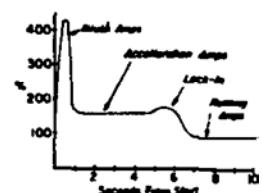

Figure 2
5. Push start button. Observe motor current during load acceleration and number of seconds required to reach full speed (Fig. 2).